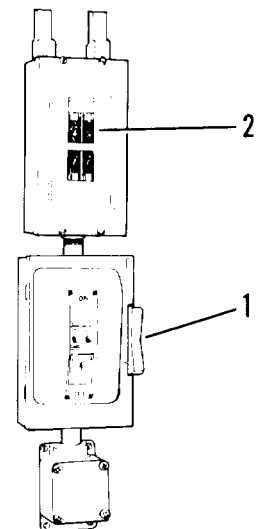
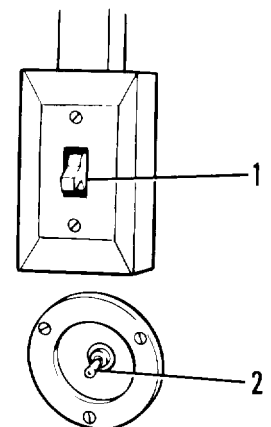

Figure 2-27. Circuit breaker and switch box
Figure 2-28. Dome light switches
- (1) Move switch handle (1, figure 2-27) up on 110 volt switch box to ON.
- (2) Check ON-OFF position of circuit breakers (2). An overload may have caused circuit breakers to be in OFF position. The circuit breakers may be placed in operating condition by moving switches to ON position.
- (3) Place 110 volt dome light switch (1, figure 2-28) on rear wall to ON position.